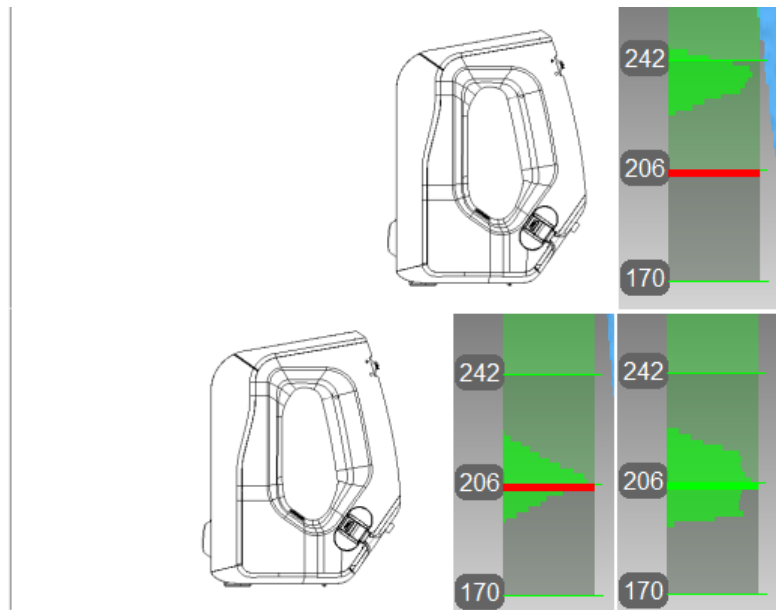

Figure 134: Artec Spider scanner's position and corresponding distance on the range meter.
7. Move the scanner smoothly toward the flat surface such that the histogram peak coincides with the red mark on the range meter (see *Figure 134*).